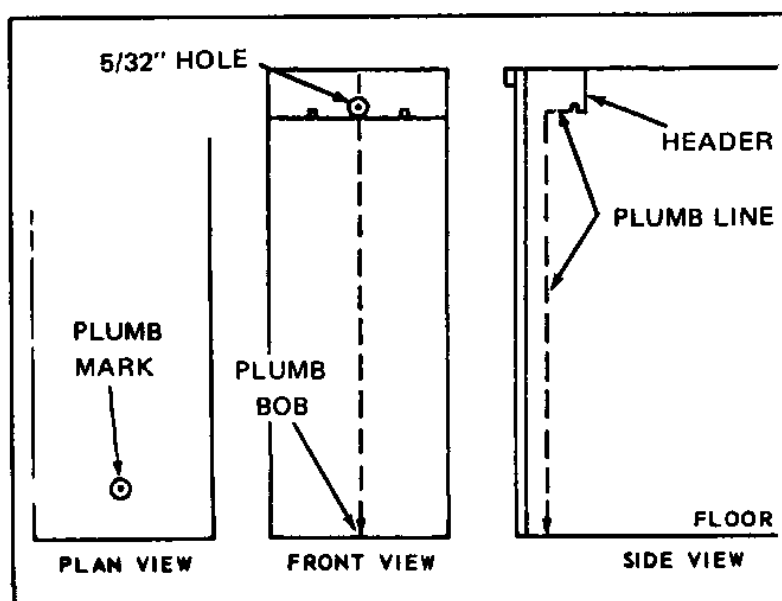

Figure 23. Plumbing Switchgear Units
in Figure 23. Insert the plumb bob line through this hole toward the inside of the compartment, and tie off line with plumb bob hanging free. The point of the plumb bob must be within 1/8" of the factory installed plumb mark represented by the center punch. The circle around the punch has no meaning and is only an aid to locate the punch mark. All plumb readings should be taken with anchor bolts tight. If it is not within 1/8", it could be due either to unlevel sills or the cubicles being damaged in shipment. Check first to insure that sills are level. If sills are not level, add 4"x 4" steel shims on top of sill, adjacent to the anchor bolts, as necessary to achieve a level floor in all cubicles and to insure that all cubicles are in firm contact with the foundation at each anchor point. Tighten the anchor bolts. If plumb bob point is still not within 1/8" after floor leveling, proceed to step No. 5 below.
7. The first breaker cubicle in from each end of every shipping group will have a plumb mark stamped on the floor plate (aisle wall must be off). This mark is located inside the breaker draw-out compartment and is represented by a center punch mark with a circle around it. Directly above this mark is a 5/32" dia. hole in the header of the breaker compartment, as illustrated in Figure 23. Insert the plumb bob line through this hole toward the inside of the compartment, and tie off line with plumb bob hanging free. The point of the plumb bob must be within 1/8" of the factory installed plumb mark represented by the center punch. The circle around the punch has no meaning and is only an aid to locate the punch mark. If the plumb bob reading exceeds the 1/8" limitation, does the position of the deviation in each end breaker cubicle read the same direction and approximately the same distance from the punch mark? If this condition exists it would normally indicate that the slab, piers or pilings, as
6. The first breaker cubicle in from each end of every shipping group will have a plumb mark stamped on the floor plate. This mark is located inside the breaker drawout compartment and is represented by a center punch mark with a circle around it. Directly above this mark is a 5/32" dia. hole in the header of the breaker compartment, as illustrated in Figure 23. Insert the plumb bob line through this hole toward the inside of the compartment, and tie off line with plumb bob hanging free. The point of the plumb bob must be within 1/8" of the factory installed plumb mark represented by the center punch. The circle around the punch has no meaning and is only an aid to locate the punch mark. If the plumb bob reading exceeds the 1/8" limitation, does the position of the deviation in each end breaker cubicle read the same direction and approximately the same distance from the punch mark? If this condition exists, it would normally indicate that the slab, piers or pilings, as the case may be, are not level and/or are not in the same plane. The addition of shims between foundation and the bottom of the beam should bring shipping group to level showing plumb reading within the 1/8" tolerance. Note all plumb readings are to be taken with anchor bolts tight.